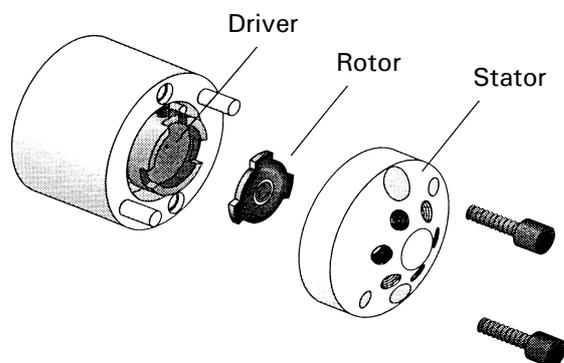

FIGURE 4-1. Exploded View of the Valco Model C2 Valve
- a) Use a 9/64" hex driver to remove the socket head screws which secure the cap to the valve (FIGURE 4-1)